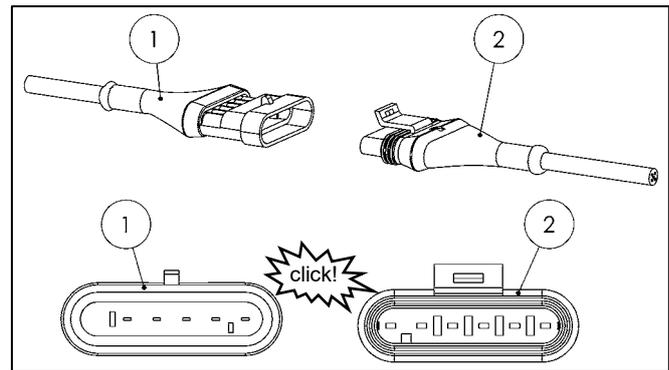

Figure 46
- Connect the control panel connector (1) to the control unit connector (2) (see Fig. 46).